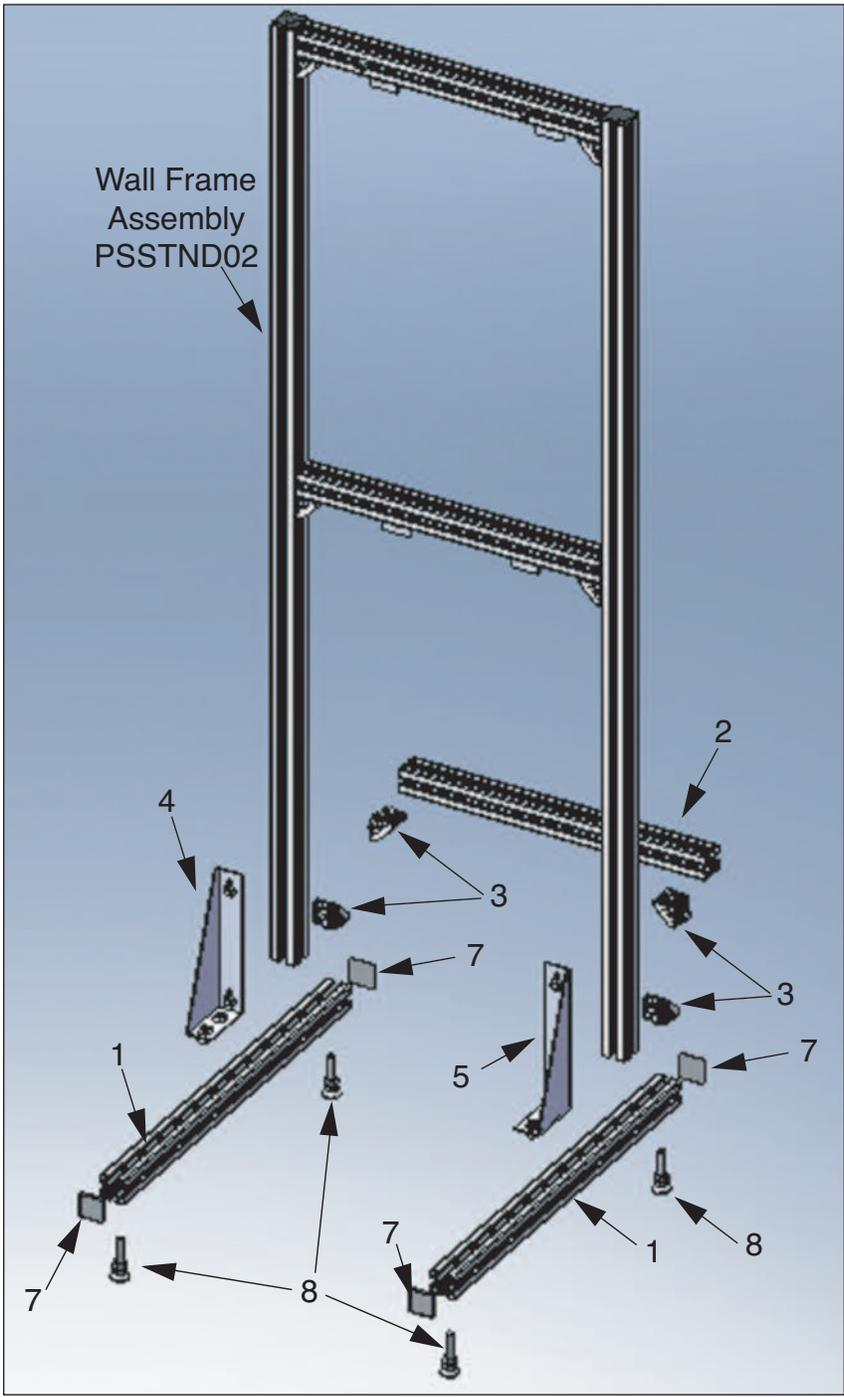

Fig. 1: Prestige Leg Kit Components
2. Layout all components as shown in Figure 1 and confirm that nothing is missing.